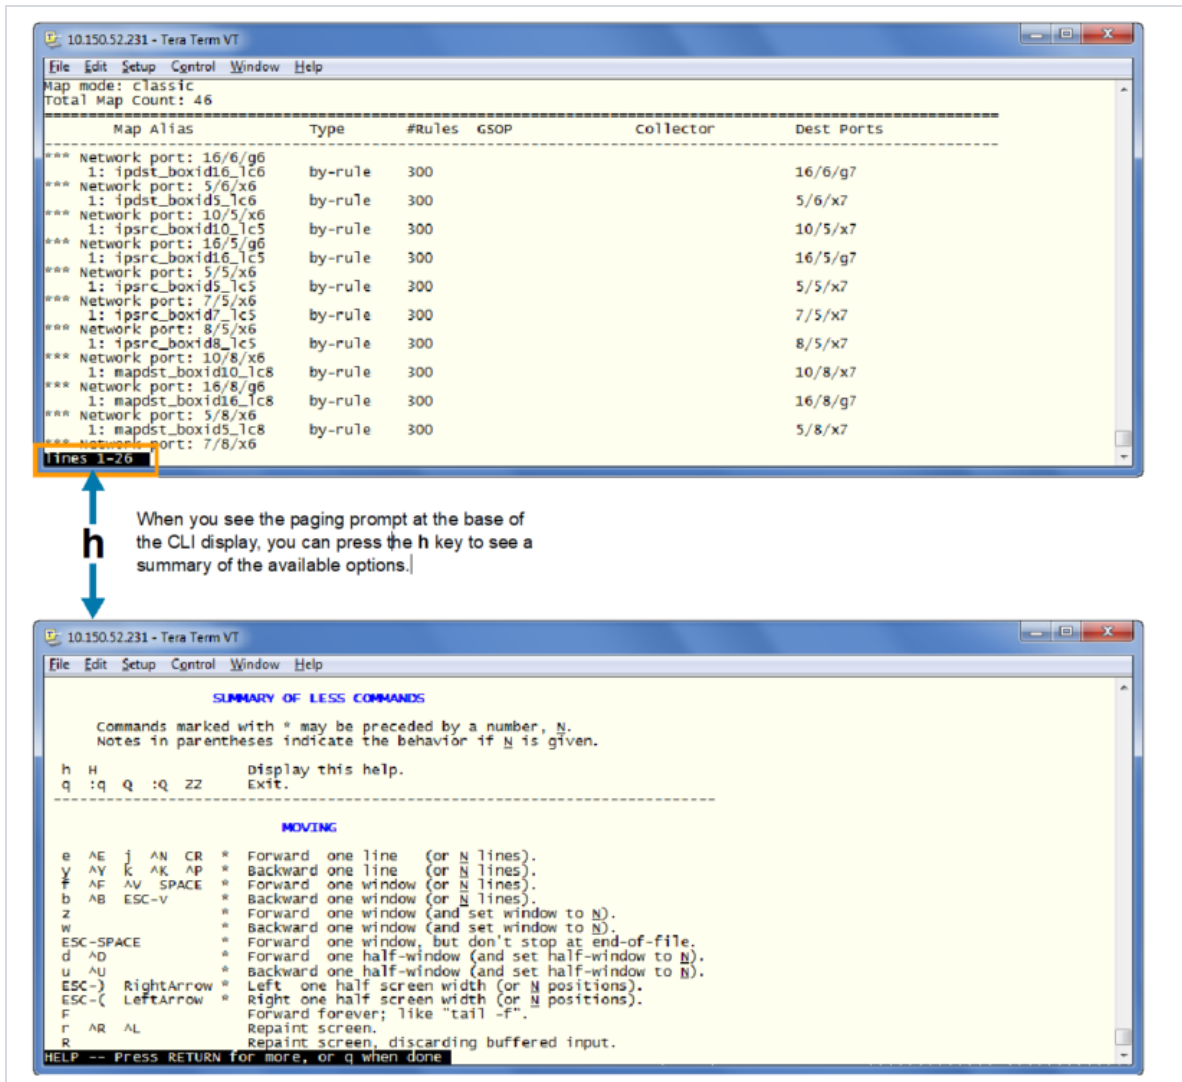

Figure 10: Viewing Paging Options
**more.** Press the **h** key when presented with the paging prompt at the base of the display to see paging options – Figure 10: Viewing Paging Options on page 65 provides an example of how to do this.